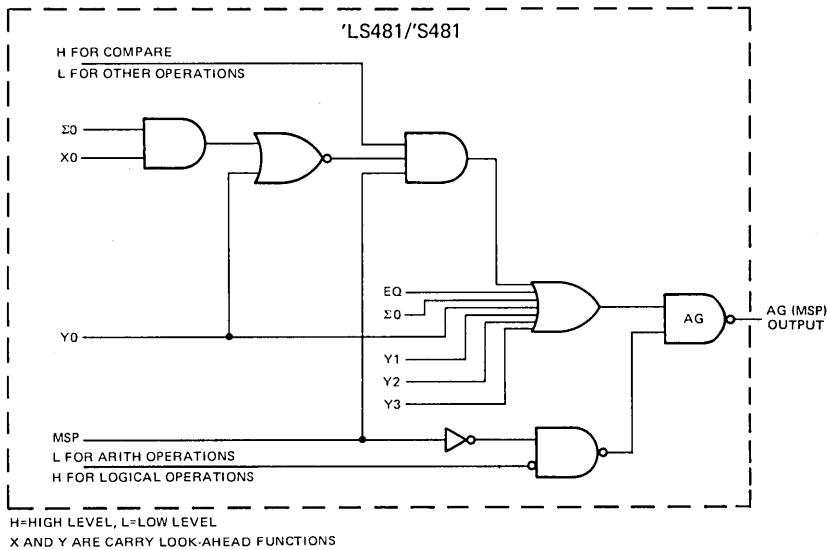

FIGURE 7 – MSP ARITHMETICALLY-GREATER-THAN (AG) OUTPUT
2.7.3 Arithmetically-Greater Than (AG, See Figure 7)